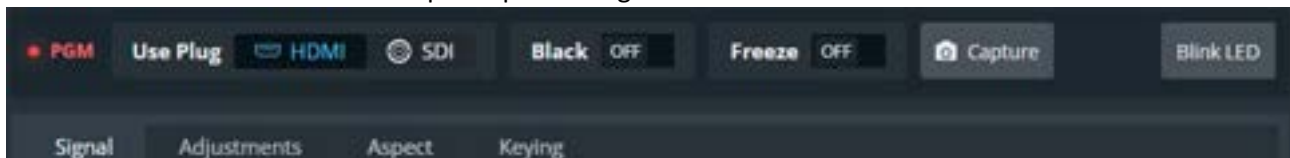

Fig. 17 - Input settings
2. In **Use Plug** on top of the Input settings, click the plug to use for the selected input (see *Fig. 17 - Input settings* above).